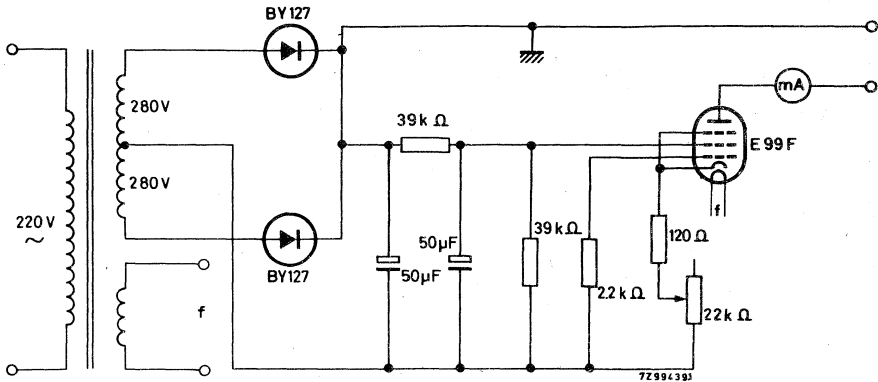

Fig. 9
For the diagram of the d. c. current source, see Fig. 9. The d. c. voltage (V) resulting from the contact resistance (R_C) and the d. c. current is measured between the pins 2 and 3 ($V = I \cdot R_C$).